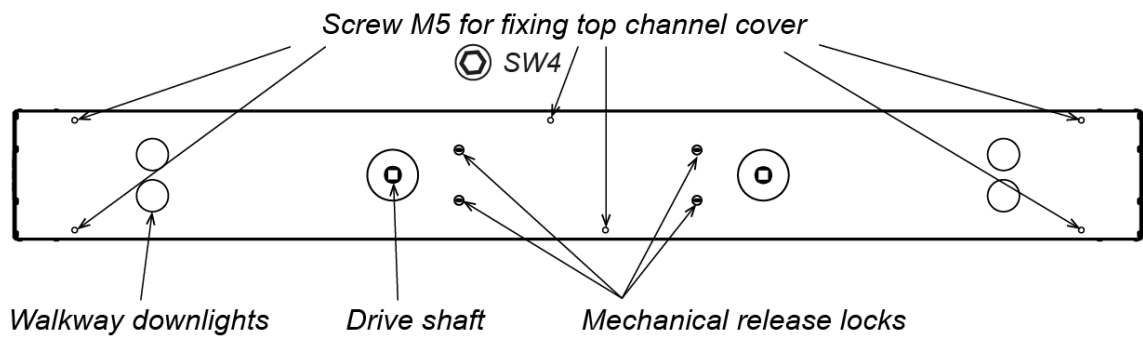

Figure 20. Top channel elements
- take off the protective insert (Fig. 20), unscrew the two M4 screws (SW3 key), that holds it from the top;
28. Place the cover (10) upon the top channel (9):
- Screw six captive screws M5 (wrench SW4) up, the screws are fixing the cover of the top channel (Fig.20).
If necessary, the replacement of walkway downlights is done in the following order (see Fig. 20, 24):